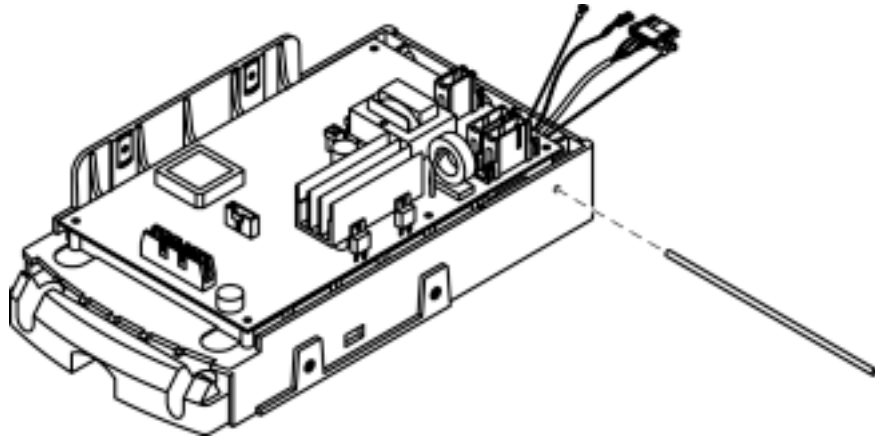

Figure 34: Door Assembly Pin Installation
14. Slide the door assembly into position with the door assembly pin holes aligned and insert the pin. See Figure 34.